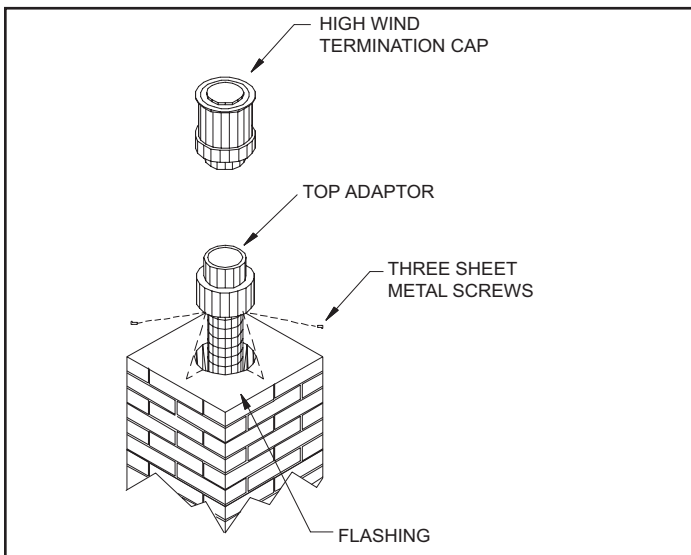

Figure 5.28
**Step 8** - Secure the top adapter to the flashing. Use three sheet metal screws through the side of the top adapter into the flange on the flashing (Figure 5.28). Twist lock the high wind termination cap on to the top adapter.